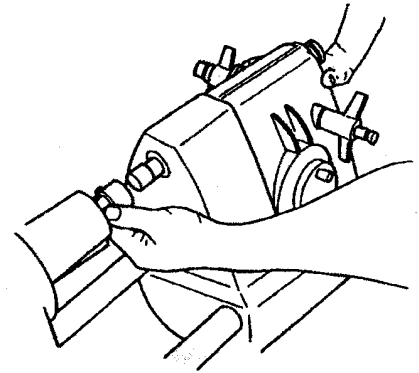

Fig.32
14. Slide the headstock hub onto the coupler (as in Fig.32), then lock the headstock.